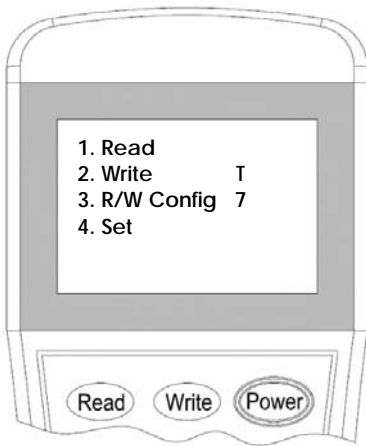

Figure 7
3. Switch-on the programmer, then press button **"3"** to enter to Configuration mode (Figure 7).